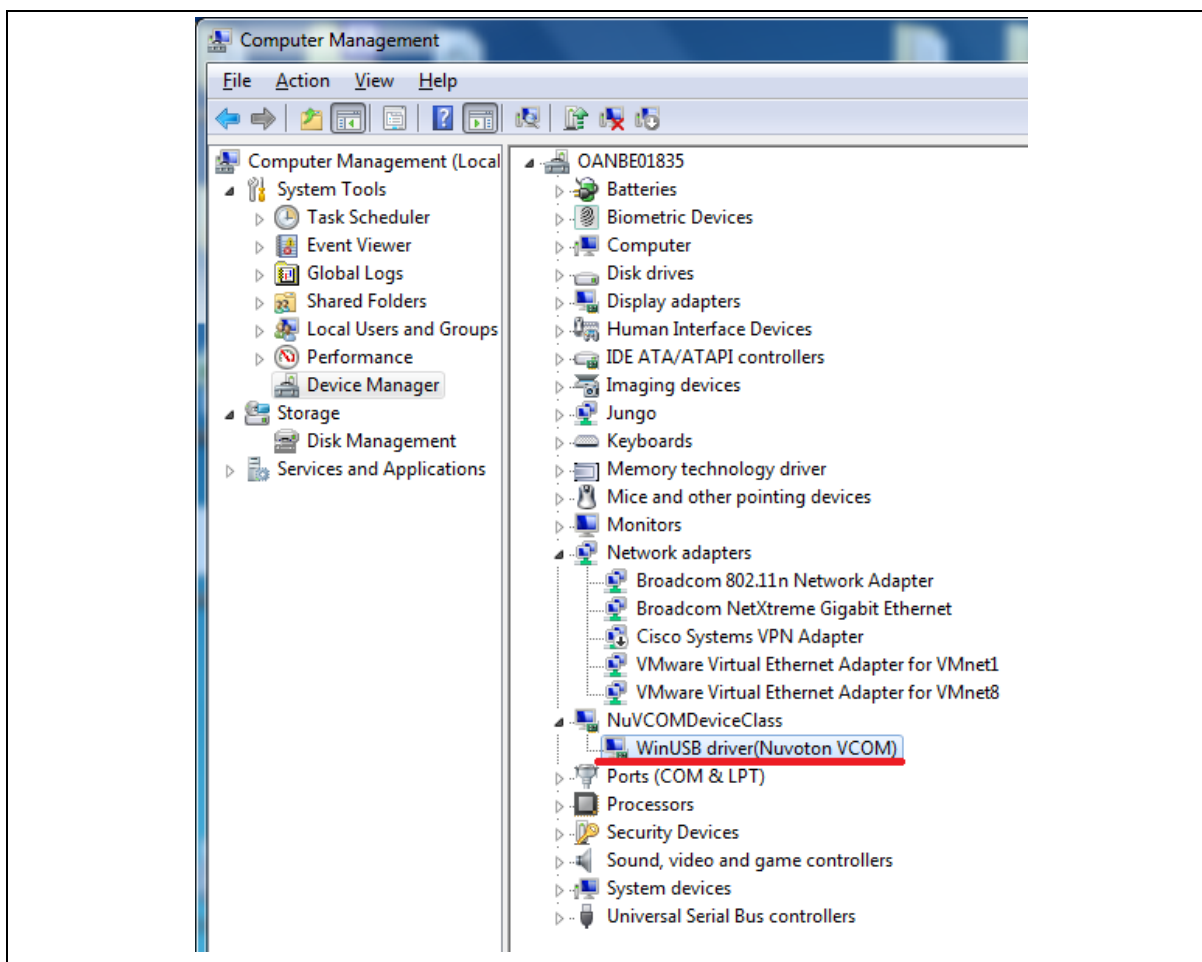

Figure 5-11 Device Manger(2)
4. Find the "WinUSB driver (Nuvoton VCOM)" on the Device Manager as Figure 5-11.